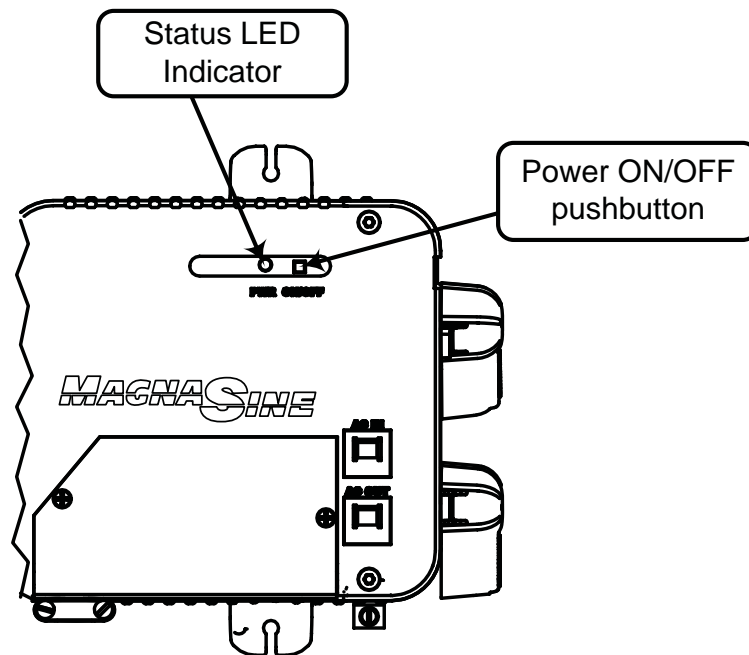

Figure 18, Resetting the Inverter
1. Press and hold the Power ON/OFF pushbutton for approximately 15 seconds, or until the Status LED comes on and flashes (see Figure 18).